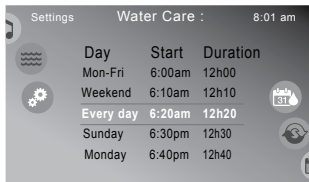

Figure 12.1f
2. Then tap the plus sign, **+**, to add a new cycle or tap the cycle to change, Weekend 1:00am 1h30. The display will change to Figure 12.1f.